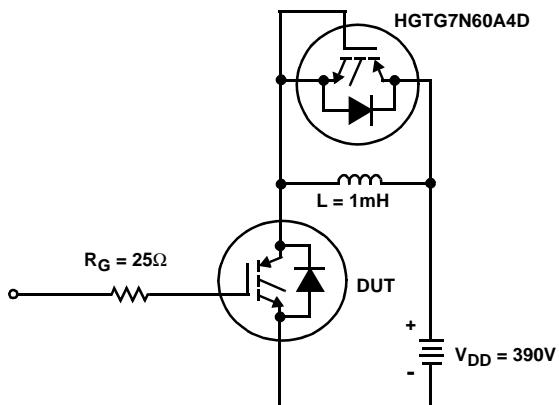

FIGURE 24. INDUCTIVE SWITCHING TEST CIRCUIT
- Values for two Turn-On loss conditions are shown for the convenience of the circuit designer.  $E_{\text{ON}1}$  is the turn-on loss of the IGBT only.  $E_{\text{ON}2}$  is the turn-on loss when a typical diode is used in the test circuit and the diode is at the same  $T_J$  as the IGBT. The diode type is specified in Figure 24.